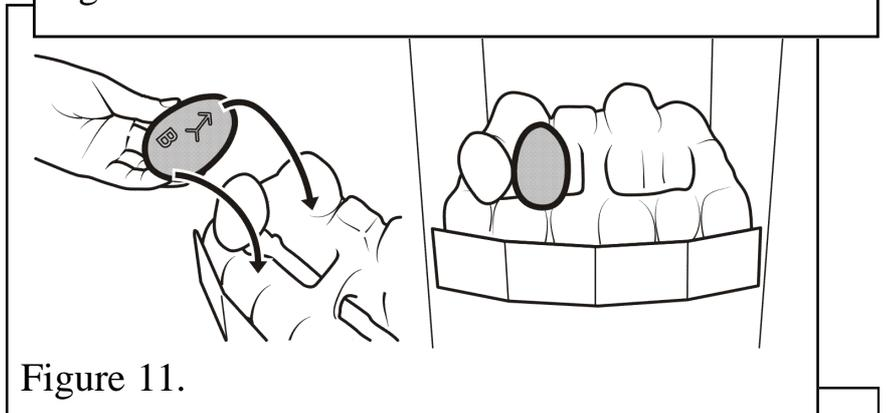

Figure 11.
4. Hold pebble 'B' upright with the arrow pointing to the top. Place pebble "B" on top of the base pebble. (See figure 11).